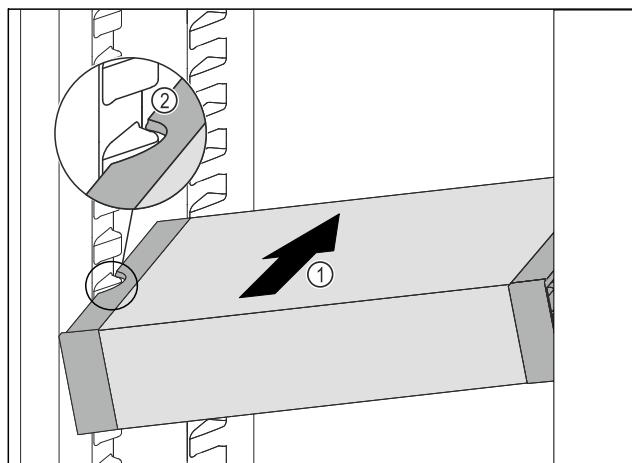

Fig. 80
- ▶ Insert the VarioSafe into the fridge section at an angle Fig. 80 (1) until the recesses in the side Fig. 80 (2) of the VarioSafe are at the level of the support rib in the fridge section.